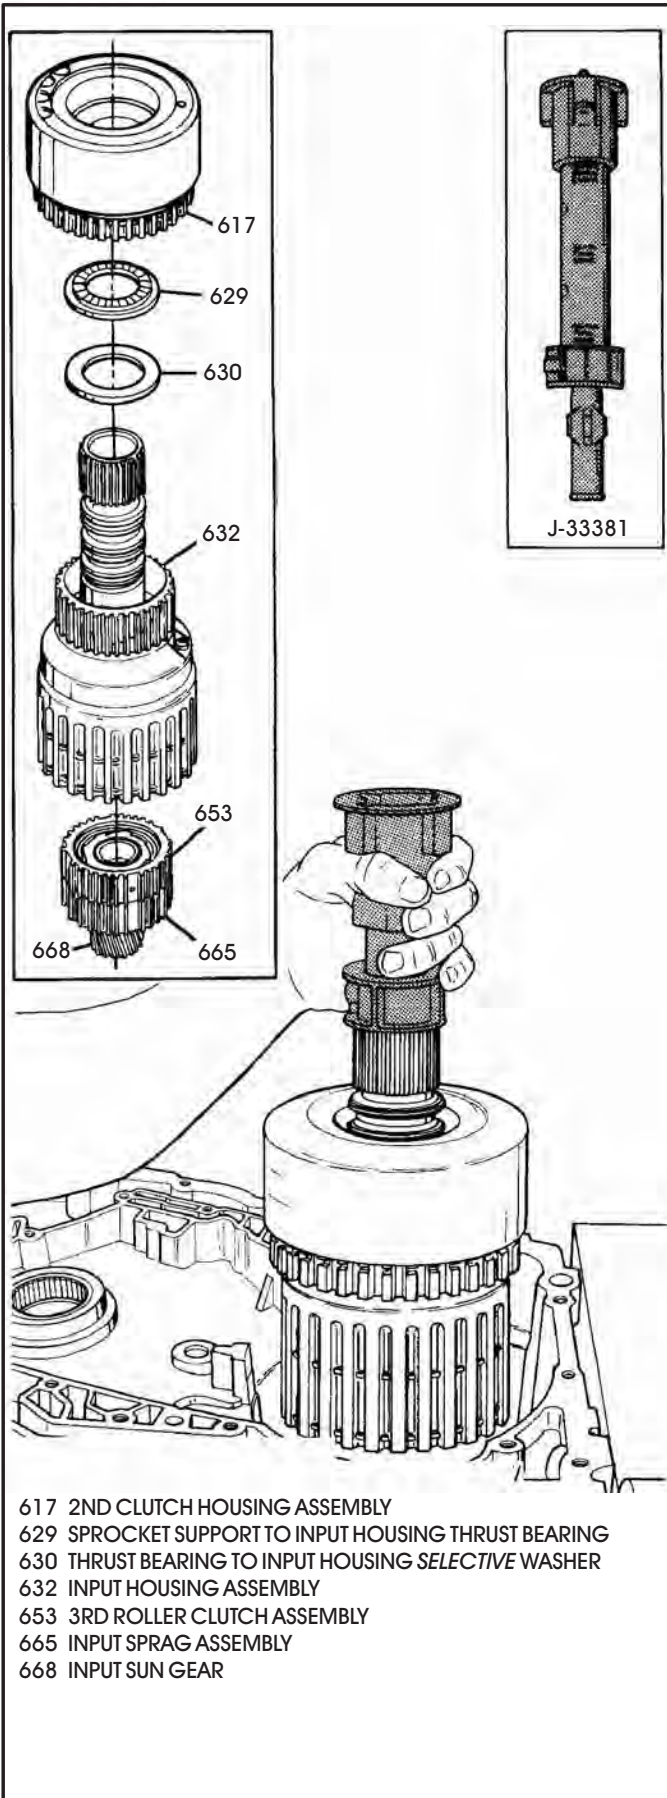

Figure 68
45. Install removal tool J-33381 into input housing as shown in Figure 68, and remove the input housing, 2nd clutch drum, both sprags and the input sun gear as an assembly.